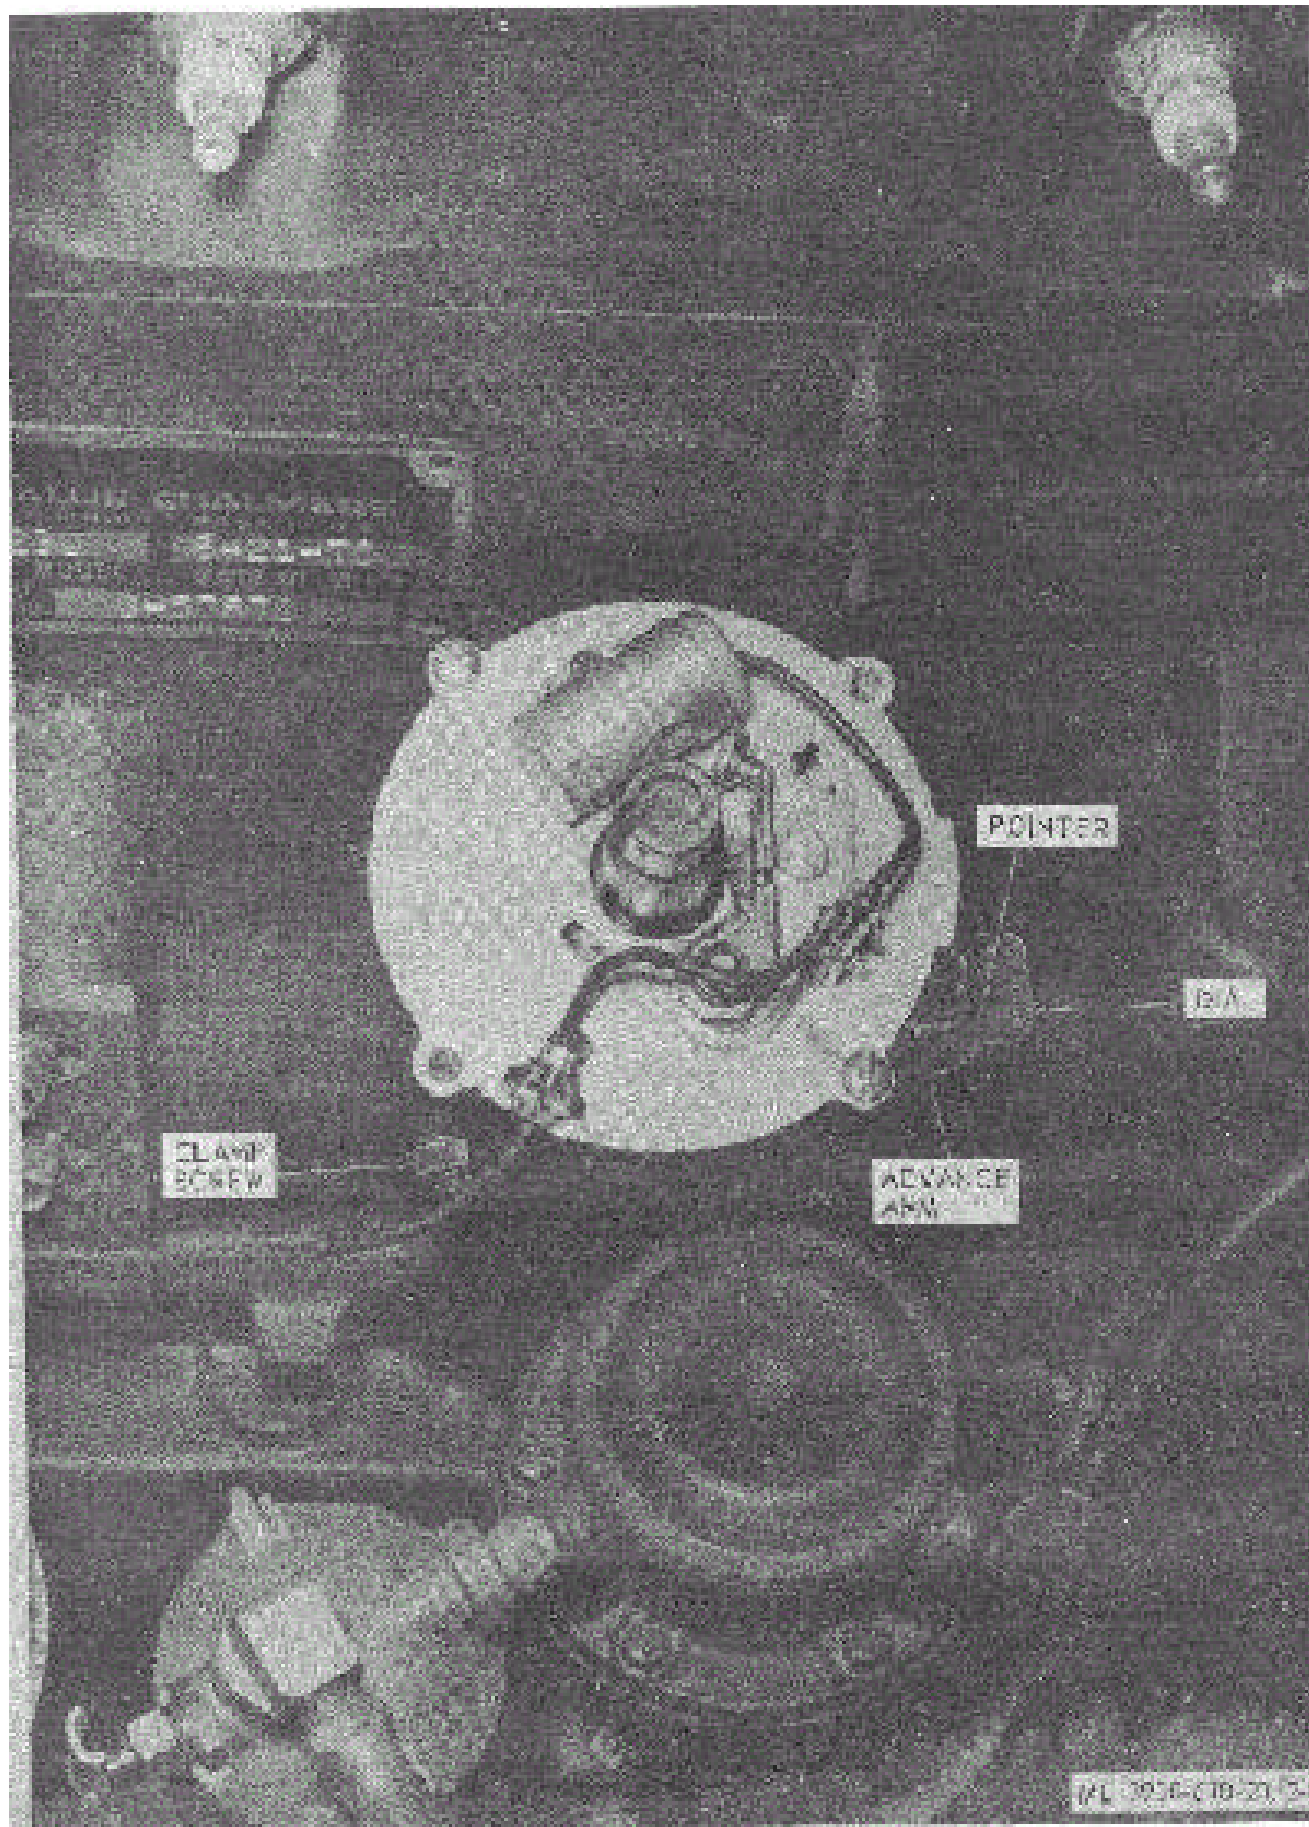

Figure 2-8. Distributor timing adjustment.
e. Loosen the screw at the distributor advance arm and set the pointer at 0. (fig. 2-8).